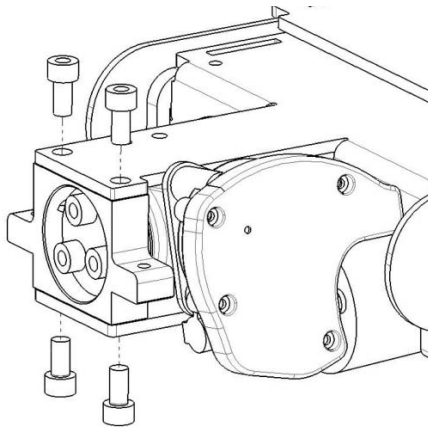

Fig. 3. Remove the four screws holding the rear edge of the actuator.
4. Remove the four screws holding the rear edge of the actuator. See fig. 3.